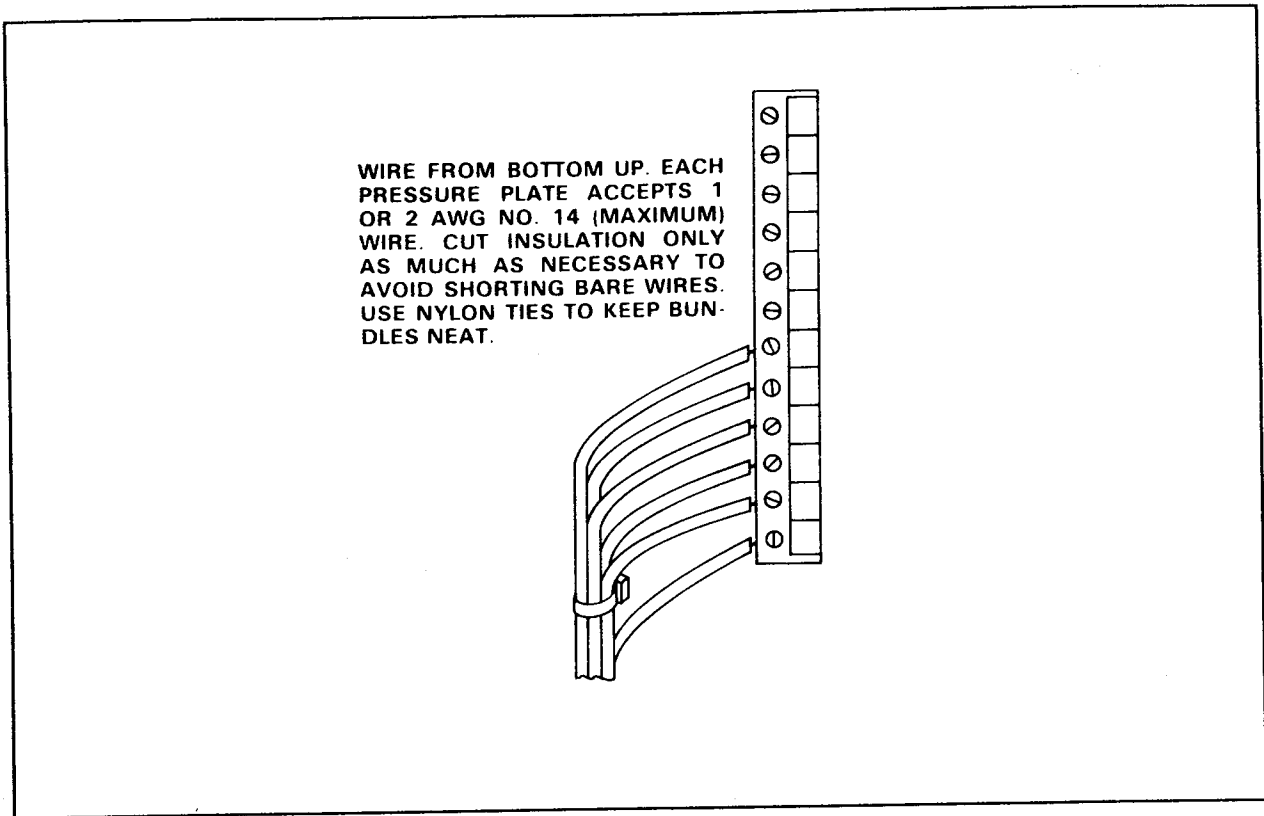

Figure 3-32. Typical Wiring
3. Subsequent field wiring is installed in this manner. Working from the bottom terminals up, each conductor should neatly build on the others, as shown in Figure 3-32.